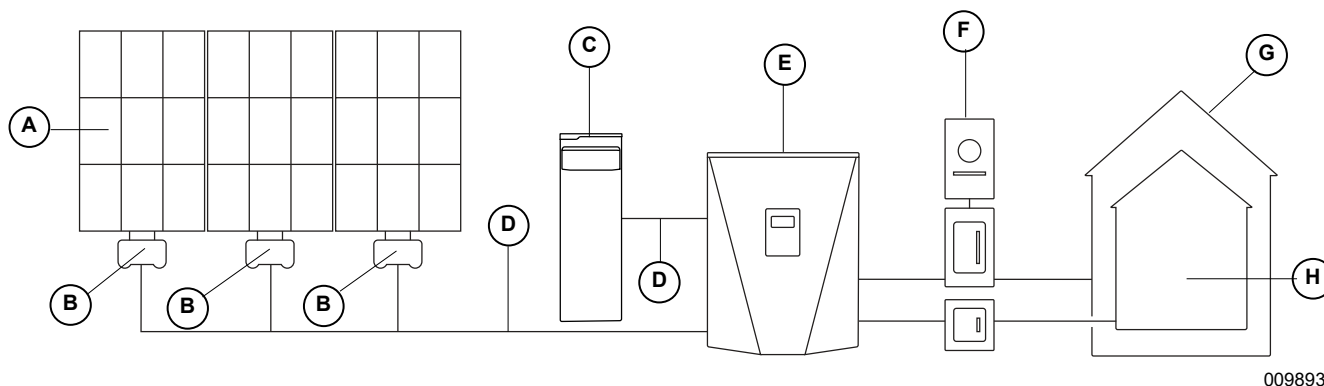

Figure 2-5. Generac PWRcell System Example.
In Figure 2-5, a REbus-compatible PWRcell Inverter (E)